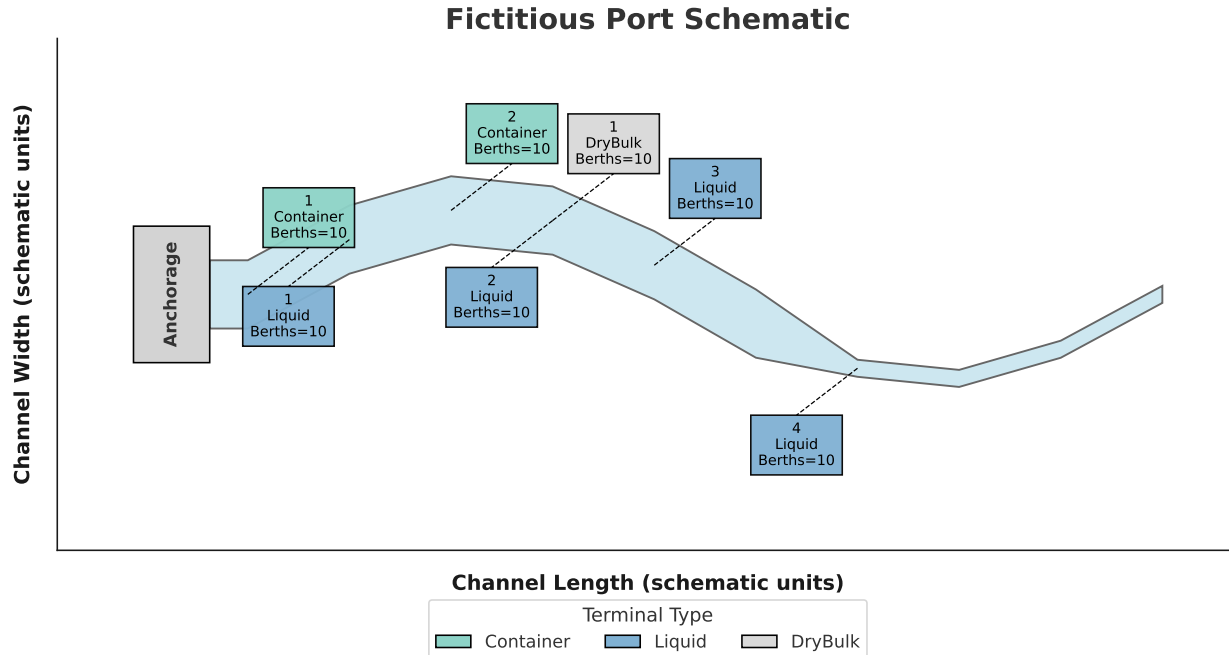

Figure 1.1: Fictitious port
The simulation framework is designed for ports organized with an **anchorage area** followed by terminals located along a **navigational channel**. Dummy data for a fictitious port are included for demonstration. The fictitious port is shown in Figure 1.1
- Default values in the distributed file are *dummy values* for the port shown in Figure 1.1; these must be replaced with actual port data prior to official runs.
Default values: Default values in the distributed file are *dummy values* for the port shown in Figure 1.1; these must be replaced with actual port data prior to official runs.